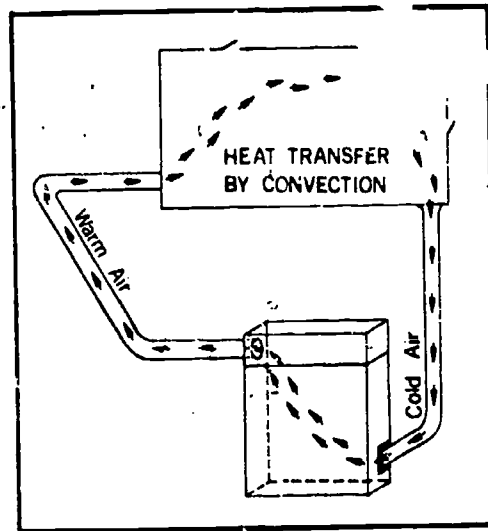

Fig 1-3. Heat transfer by convection.
- (b) Convection (fig 1-3). Convection can be explained by following the principle behind a simple heating system such as the one shown in figure 1-3. First, air is heated and allowed to escape into an area where the air is cooler. Since air expands when it is heated, it becomes lighter than cold air. The cold air will flow under the hot